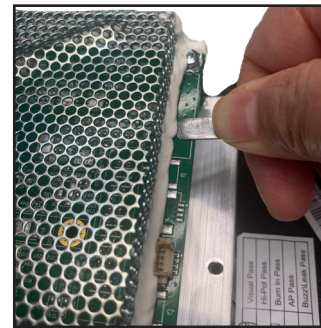

Figure 10. White Glue Removal
2.5 Use a spudger to separate the white glue from the edge of PCB as indicated in Figure 10.